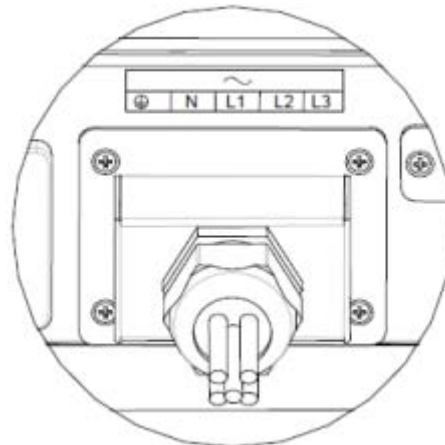

Fig.5.1.11
- 3) Fasten the protection shell onto the bottom of the inverter, make sure the four screws are tightened, the completed appearance is like Fig.5.1.11.